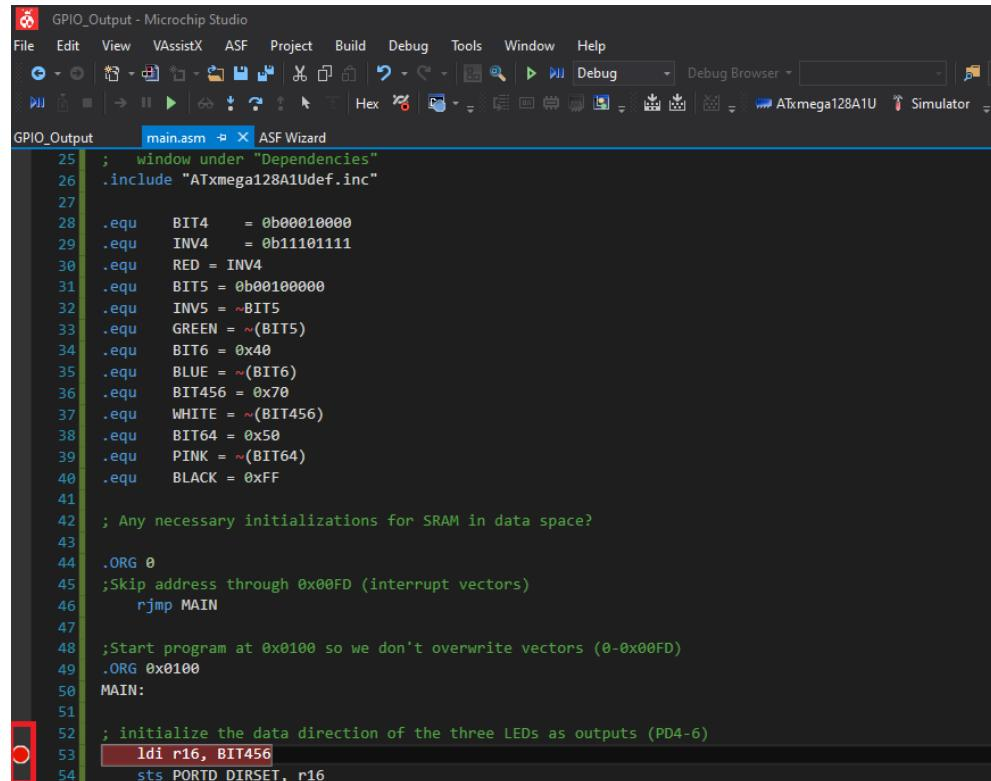

Figure 11: Breakpoint at first instruction of the given program, along with the debug Continue icon.
5. Place a breakpoint in your code editor on the first assembly instruction within your *main* program: `ldi R16, BIT456`, by using your mouse to click the pane to the far left of the instruction. A red dot will appear next to this specified instruction, as shown in *Figure 11*.